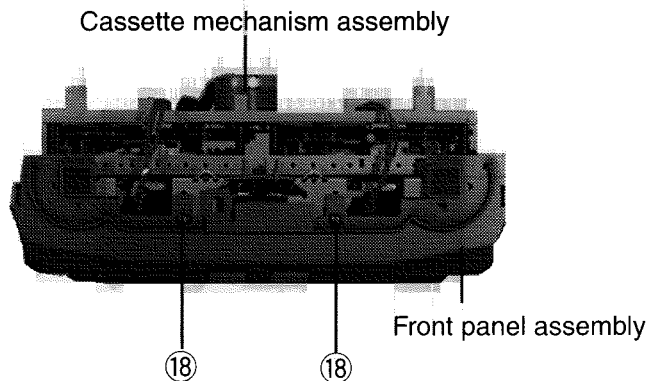

Fig. 18
6. Remove the two screws ⑱ fastening the cassette mechanism assembly from the bottom side of the front panel assembly.(See Fig.18)